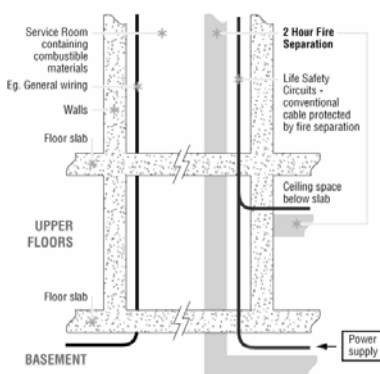

Figure 5
The recommendation is to provide a 1-hour or 2-hour fire separation for the electrical conductors and the combustible materials, or utilize 2-hour listed cables (see Figure 5). The actual excerpt is 3.2.6.9(1) and it states “...not less than 1 hour”; yet under sections 3.2.7.4, 3.2.7.8, 3.2.7.9, it refers to a requirement for emergency power of 2 hours. This “grey area” is open to interpretation by the design engineer. Should he/she provide 1-hour fire protection for the electrical conductors, when required also to provide emergency power for 2 hours? The recommended solution is to specify a listed 2-hour rated cable system or a 2-hour fire separation. Although most of the provinces have adopted the NBC, there are a few exceptions. The Ontario Building Code 1997 has clarified “fire protection of conductors” under 3.2.6.14(1) wherein it references the actual time requirement (2 hours) under section 3.2.7. The City of Vancouver, under Appendix “A”, actually defines the appropriate methods; ULC 2-hour listed cable systems or construction methods protecting conventional cables for 2 hours.